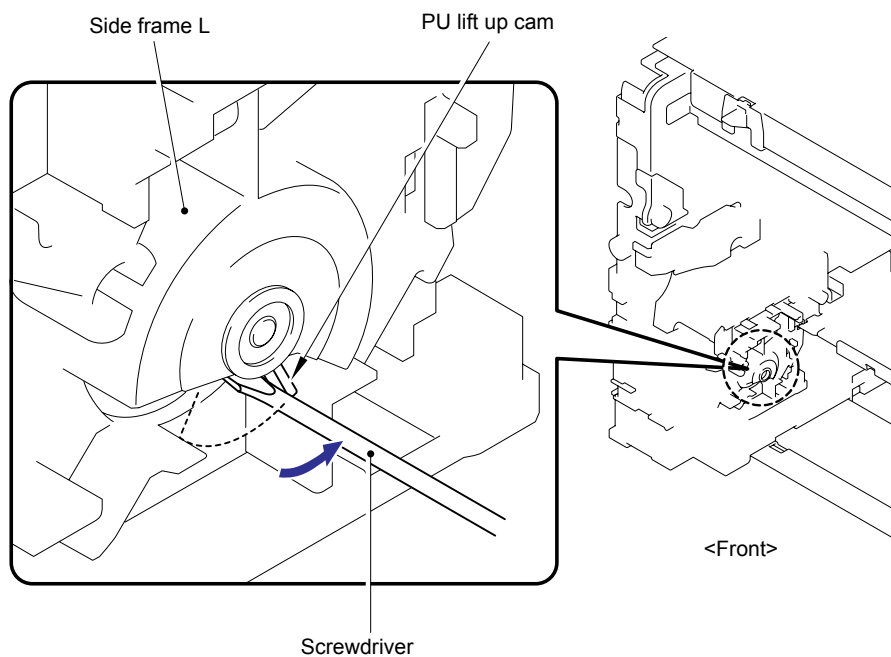

Fig. 3-120
- 1) When pushing up the Roller holder ASSY with your hand, the end (section "A") of the Lift arm goes down. That makes easy to push the end of the Lift arm under the section "B" shown in Fig. 3-120.